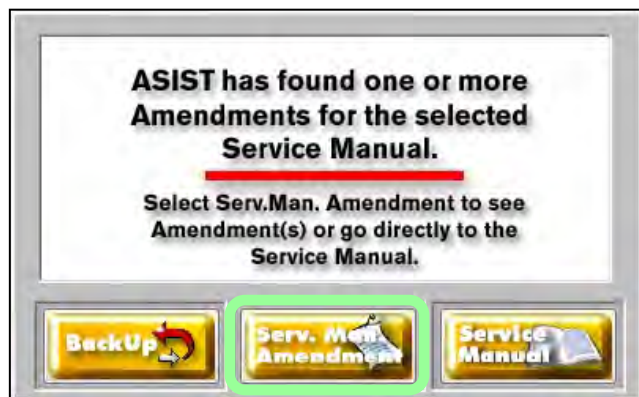

Figure 9
- Serv. Man. Amendment** (Figure 9).